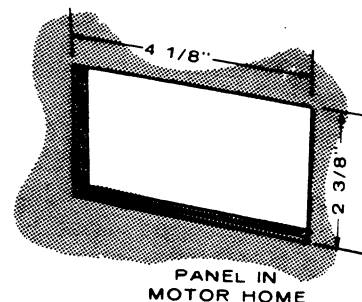

FIGURE 23. MOTOR HOME CUTOUT
1. Select control location. Using Figure 23 as a guide, drill screw holes and cut hole to accommodate remote switch in panel.